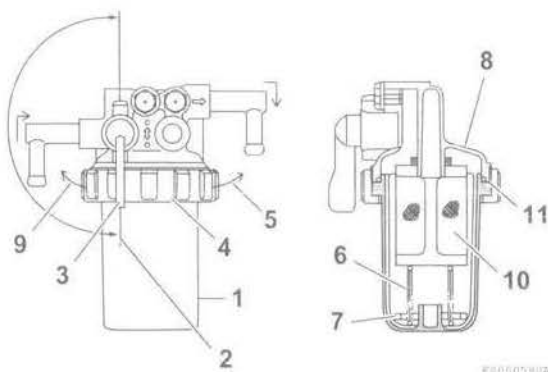

Figure 17
1. Position an approved container under the cup (1, **Figure 17**) of the water separator to collect the contaminants.
2. Close (2, **Figure 17**) the fuel valve (3, **Figure 17**).
3. Turn the retaining ring (4, **Figure 17**) to the left (9, **Figure 17**).
4. Carefully remove the cup (1, **Figure 17**). Remove the retaining spring (6, **Figure 17**) and float (7, **Figure 17**) from the cup. Pour the fuel into an approved container and dispose of waste properly. Hold the bottom of the cup with a shop towel to prevent the fuel from dripping. Wipe up any spills immediately.
5. Remove the element by pulling it down (10, **Figure 17**).
8. Inspect condition of the O-ring (11, **Figure 17**). Replace if necessary.
9. Put the float (7, **Figure 17**) and retaining spring (6, **Figure 17**) inside the cup.
10. Install the cup to the mounting flange (8, **Figure 17**) and turn the retaining ring (4, **Figure 17**) to the right (5, **Figure 17**). Hand-tighten only.
11. Open the fuel valve (3, **Figure 17**).